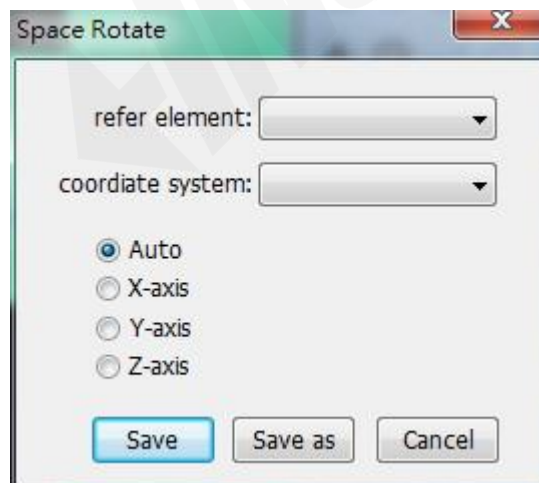

Fig. 8-3
8.1.2 Set up three dimension coordinate (Fig.8-3)